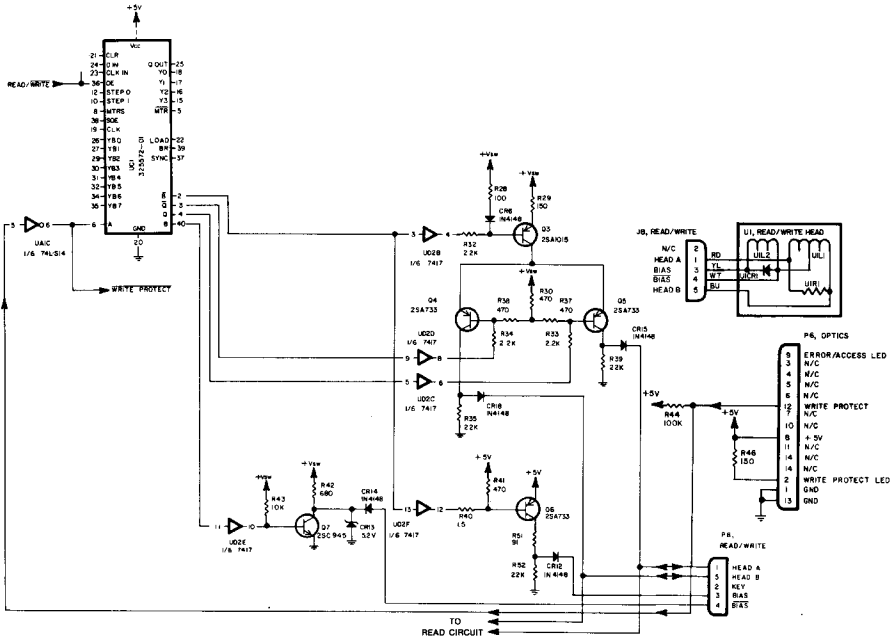

Fig. 7-37. Schematic of write circuit, Model 1541.
7.2.7 Write Circuit Electrical Theory (Refer to Figs. 7-37 and 7-38)
7.2.8 Read Circuit Electrical Theory (Refer to Figs. 7-37, 7-39, and 7-40)
The data is sensed by the read/write head and applied to the first video amplifier (UF3) via the diode switch (see Fig. 7-37). When in the read mode, Q3, Q6, and Q7 are not conducting. CR16 and CR17 are forward biased via the read/write winding (U1L1), CR14 (which is also forward biased), and CR13 (a 5.2-volt zener diode). The cathodes of CR16 and CR17 are at approximately +6 volts, causing the data to be applied to the first video amplifier (UF3). The +6-volt bias is applied to the cathodes of CR18 and CR15.